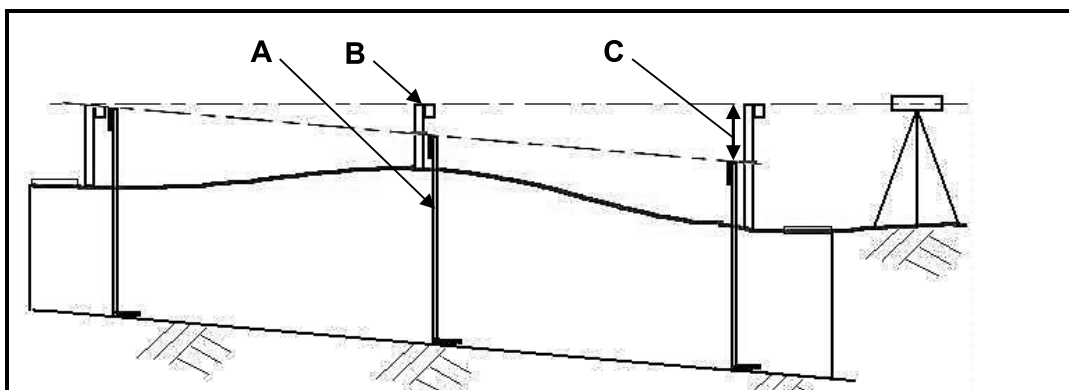

FIGURE 3.8
- 3.8 Answer the following questions with regard to the drain excavation in FIGURE 3.8.
- 3.8.2 The length of the drain excavation in FIGURE 3.8 is 8 m. Determine the measurement at **C** if a fall of 1:40 is used. Show ALL calculations. (2)